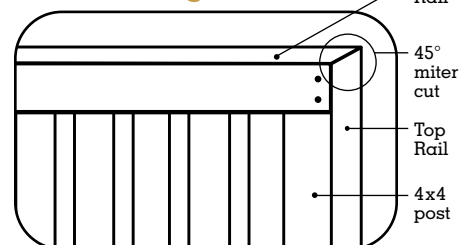

Fig. 37
- The Top Rail can be miter-cut at a 45° angle at the end of a Rail section and matched with another Top Rail to create a seamless Rail section end. Allow the Top Rail 45° cut to overhang the 4x4 post and match another Top Rail at the cut and secure it into the 4x4 post (Fig. 37).